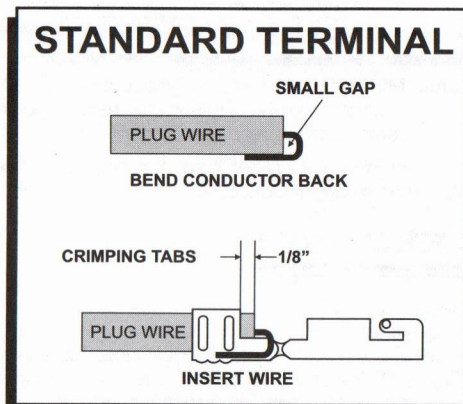

Figure 4 Positioning the Wire in the Terminal.
1. After stripping the sleeve, fold the conductor back along the wire insulation (Figure 4).